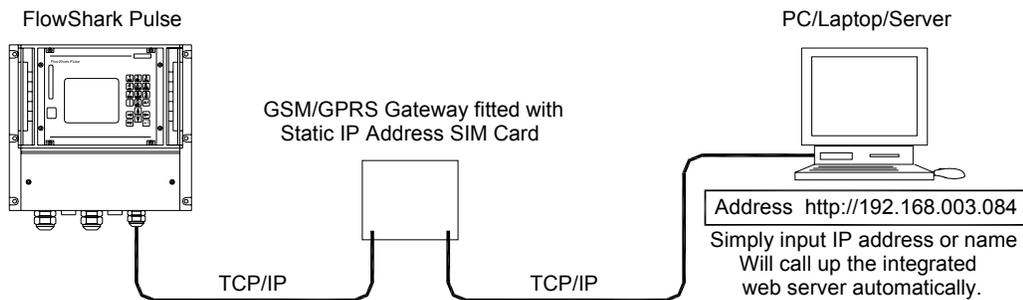

Figure 6-47 Communication through a GSM/GPRS gateway
- Remote communication through a GSM/GPRS communication device (gateway) – See Figure 6-47.